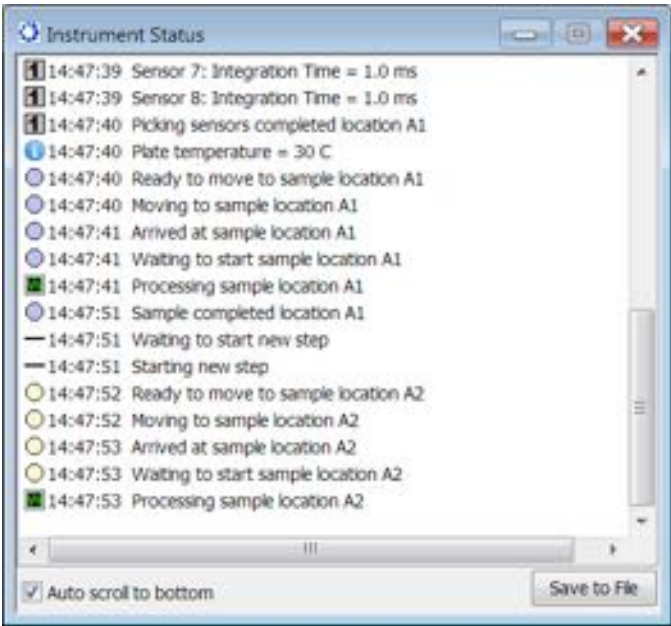

Figure 5-55: Instrument Status Log
4. Optional: Click **View > Instrument Status** to view the log file (see Figure 5-55).